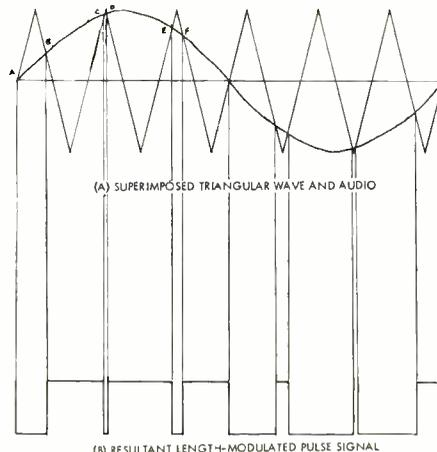

Fig. 5. Generating a pulse-length-modulated signal using a triangular wave.
The waveforms involved in this method are shown in Fig. 5. In (A) of Fig. 5, we see the superimposed audio and triangular wave signals. This mixture has two basic characteristics. One is that there are clearly defined instants of time when the two signals have the same amplitude—that is, the two waveshapes cross. A circuit can be devised which switches back and forth between two states (say, *on* and *off*) whenever the two signals are equal. Such a circuit might be termed a coincidence circuit. The other characteristic is that, except at these crossover points, one signal is always larger than the other, and the order of their magnitudes changes at the crossover points. For example, at the beginning of the waveshapes shown (point A), the tri-
angular wave has a greater amplitude, but at point B they reverse and the audio has a greater amplitude. Then at point C they switch again and the triangular wave is again larger, and so on. This characteristic can also be used to generate a modulated signal, by using a circuit which switches to one state when the audio signal is larger than the triangular signal, and switches to the other state when the triangular wave is larger than the audio signal. The resultant signal is shown in B of Fig. 5.
As soon as the triangular wave becomes more negative, the forward bias on Q_2 decreases until the emitter is more negative than the base and Q_2 cuts off. The collector current is therefore almost zero, and the collector voltage of Q_2 is about -12 volts. The output of the circuit is therefore about -2 volts whenever the audio signal is more negative than the triangular wave, and is about -12 volts whenever the audio signal is more positive than the triangular wave. The length of the negative (-12 volt) portion of the pulse depends therefore on the length of time that the audio signal is more positive than the triangular wave. Except for a phase reversal, we have therefore generated the modulated pulse shown in Fig. 5.
But as it turns out, the circuit is relatively slow acting. This is due to several causes. For one, the region between full-on and full-off for transistor Q_2 is rather wide, and there is a portion of the triangular wave when the wave is slowly changing through the transition region. The output pulses from the modulator do not therefore have the steep rise and steep fall of the wave shown in (B) of Fig. 5, but instead each pulse increases slowly and decreases slowly. Some waveshaping is therefore required at the output of the modulator, because these transition regions are undesirable.